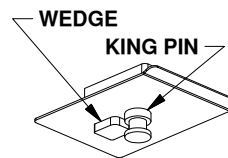
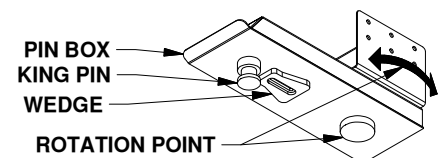

Figure F1: Capture plate.
Figure F2: Pin box with rotation point.
**WARNING:** Towing a trailer without a functioning pivot point between the hitch and trailer will cause significant damage to the hitch which may lead to serious injury or death. Some pin boxes such as a PullRite® SuperGlide Capture Plate remove the pivot point between a trailer and coupler and should not be used, see Figure F1. Pin boxes with a wedge that relocates the pivot point such as a Reese® Sidewinder or Reese® Revolution may be used, see Figure F2.